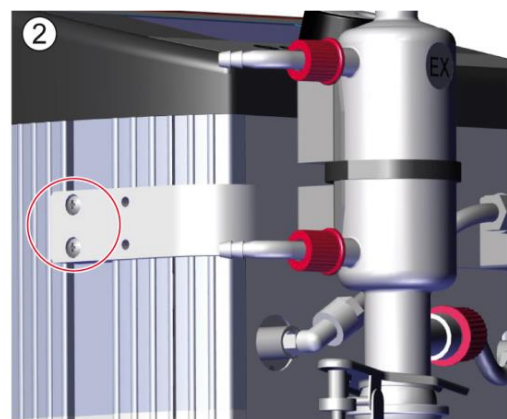

Fig. 8.2 – Retainer bracket fastener (left side)
3. Release the retainer bracket fasteners on the right and left (Fig. 8.2).